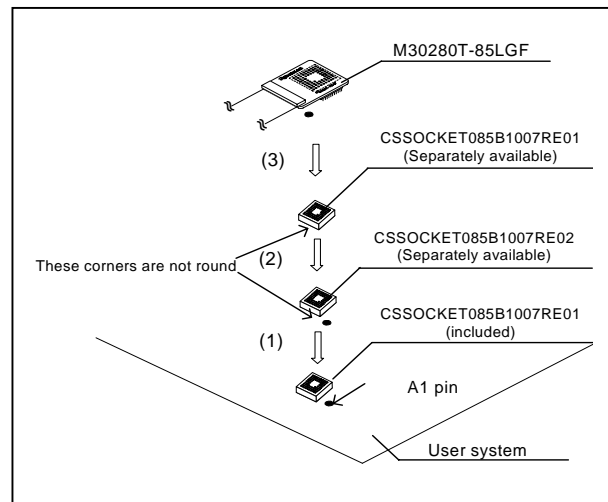

Figure 4 Height adjustment of the M30280T-85LGF and user system
6. Height Adjustment (See Figure 4)
7. Dimensions of M30280-85LGF and Recommended Foot Pattern (See Figure 4)